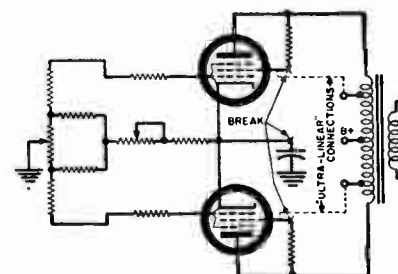

Fig. 1. Amplifier output stage changes.
Fig. 1. (A) Ideal response when the feedback is correct; part curves show instability points as feedback is increased. (B) Effects of various stability margins on the over-all response; 12 db is proper for high end and 18 db for low end.
about 18.5% of the impedance as called for in true "Ultra-Linear" operation. Nevertheless, by connecting these intermediate taps to the screen grids of the output tubes, definite improvement was achieved. Figure 1 shows the change in connections. Table 1B shows the results.
2. As shown in Fig. 1, the author's version of the Williamson included a cathode bypass capacitor across the common cathode resistance of the output tubes. According to the literature at the time, this capacitor served to improve low-frequency response. Upon removal of this component IM distortion went down slightly but significantly, no doubt because of the current feedback produced by the unbypassed cathode resistance. A check of 20-cycle response (minimum frequency of the available oscillator) showed no deterioration in the response at low or high levels.